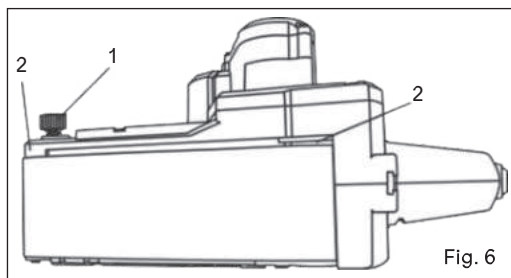

Fig. 6
3. While the sanding belt is turning, turn the tracking adjustment knob (1) very slightly and observe how the sanding belt moves on the sanding belt rollers (2) (Fig. 6).
1. Squeeze the trigger switch and check to make sure the sanding belt is tracking in the centre of the sanding belt rollers. Adjust if necessary (Fig. 6).